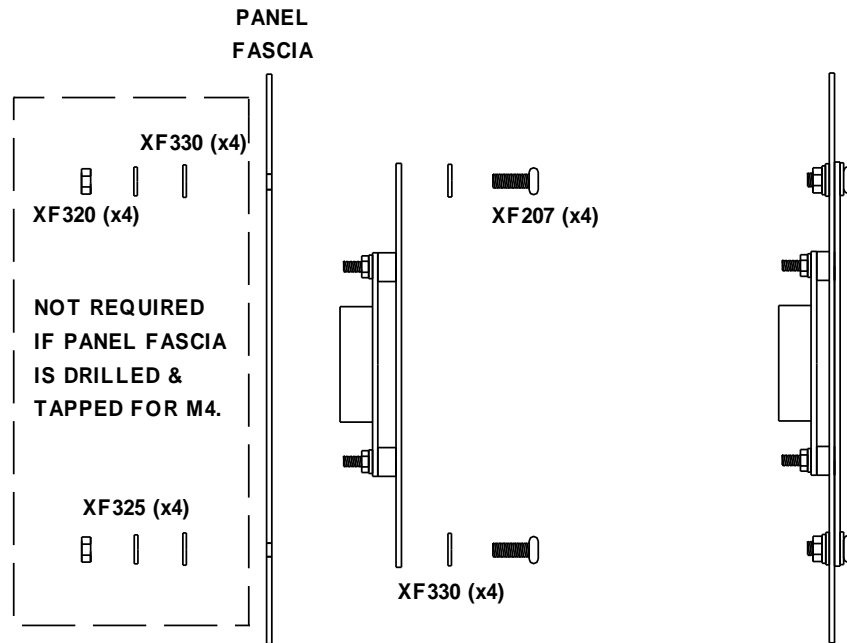

Figure 10 Fitting Face Plate into Panel Fascia
6. Mount assembled Brooks face plate on the panel fascia using M4x10mm bolts, M4 nuts, washers, etc as shown in figure 10.